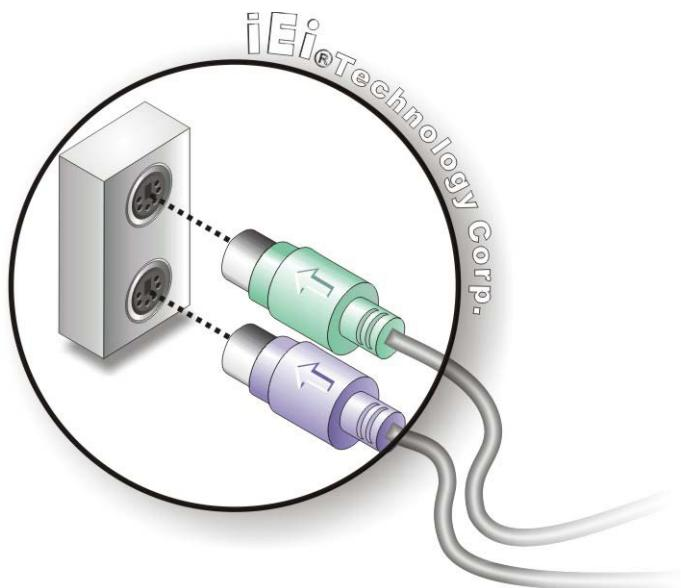

Figure 4-16: PS/2 Keyboard/Mouse Connector
Step 2: Insert the keyboard/mouse connector. Insert a PS/2 keyboard or mouse connector into the appropriate PS/2 connector on the external peripheral interface connector. See Figure 4-16.